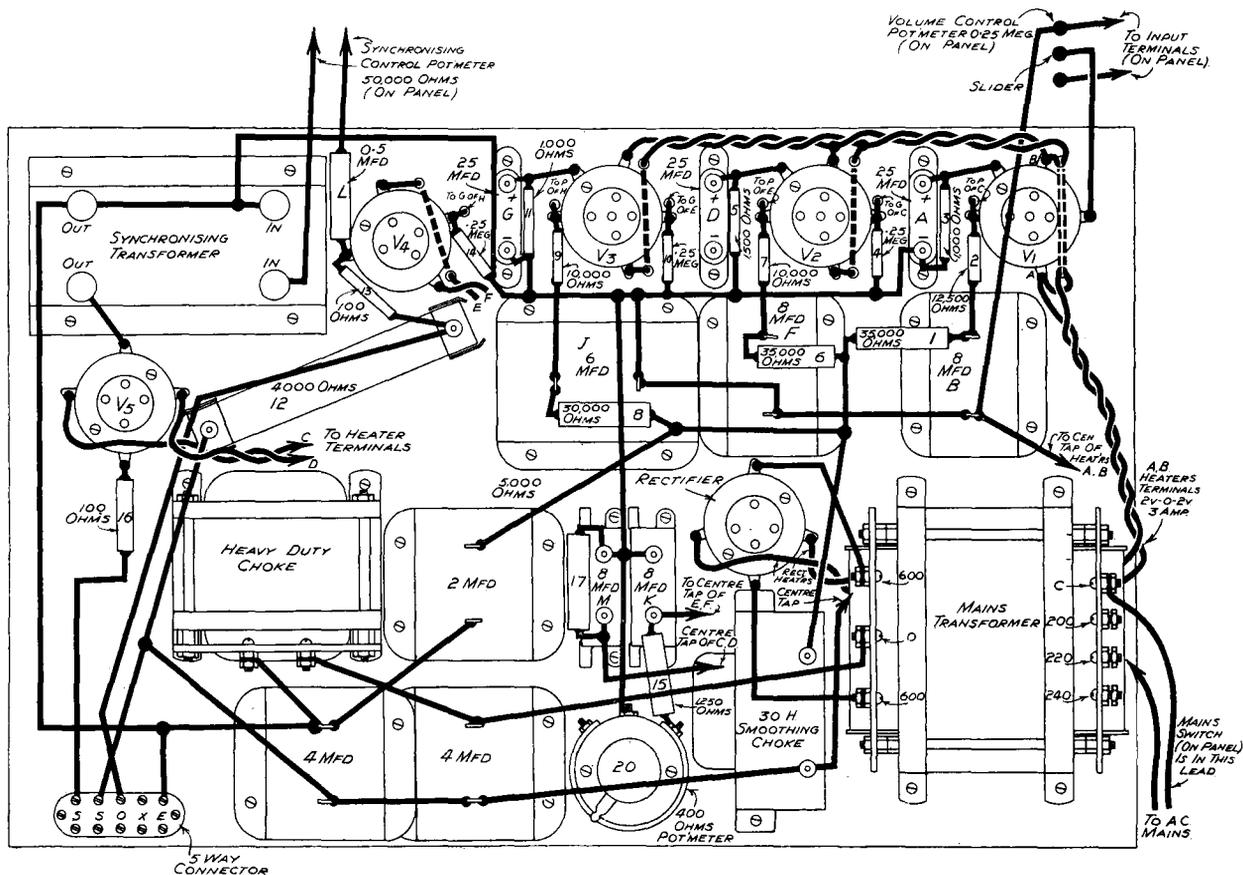

Fig. 3. The wiring diagram which is explained in detail in the text.
**Key to Figure 3.**
inductance of one-tenth of a henry shunted by a 2 mfd. condenser is suitable. Unless the coil has very low resistance, very little gain will be obtained from this stage, but this is immaterial, since its main function is the improvement of the wave-form of the synchronising current. Of course, a band-pass filter passing a narrow band about 375 cycles might equally be employed for this purpose, but the valve stage is considerably more simple while providing sufficient selectivity. Fig. 3 shows the characteristic of such an amplifier, using an L.S.5 valve with a tuned circuit as above described.